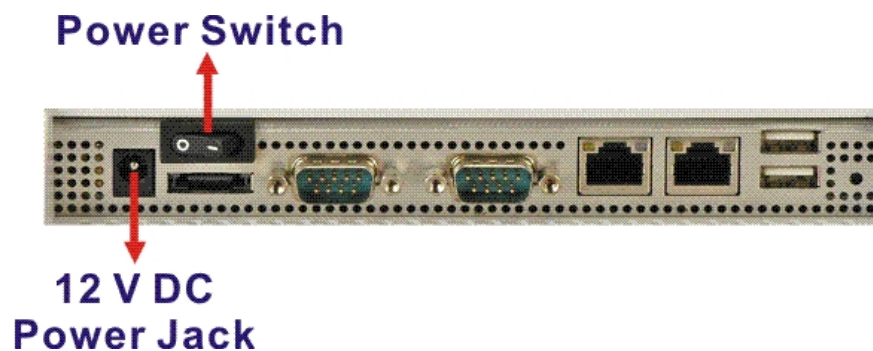

Figure 2-9: Power Connector and Power Switch
A standard power jack on the bottom panel of the ACT-08A-ATOM is connected to the power adapter and can input 12 V of direct current (DC) into the system. The power connector and power switch are shown in **Figure 2-9** below.